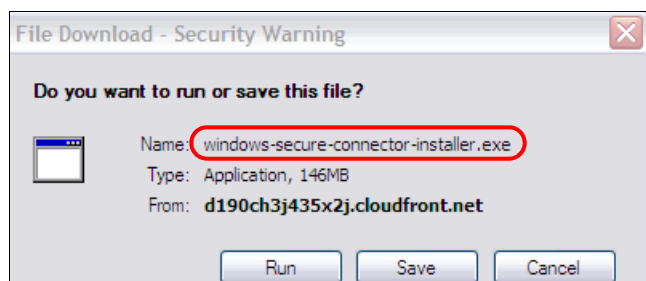

Figure 2-36 WebSphere Cast Iron Live downloading the installer
4. Back in the Edit Secure Connector dialog box, click **Download Installer**. Choose either the Windows or Linux operating system (in this example, choose the Windows operating system). Save the file on your local environment. For a Windows operating system, this file is called windows-secure-connector-installer.exe, as shown in Figure 2-36.